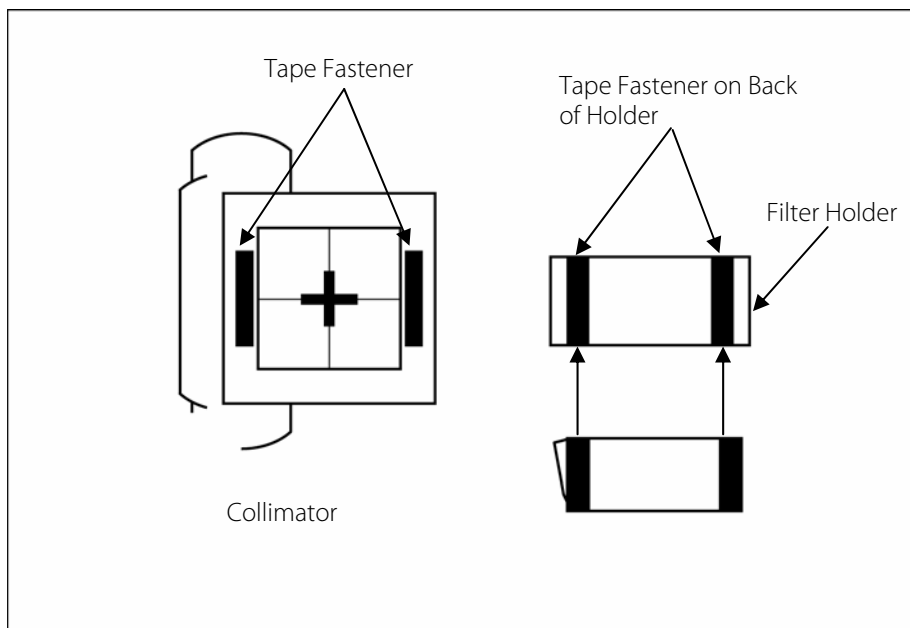

Figure 1-1. Mounting to a Square Collimator
- A. For conventional, square collimator mounting: Attach two strips of 1" wide tape fastener to collimator housing outside the field of view. See Figure 1-1. The filter holder should be oriented perpendicular to the axis of the foot. The filter attaches to the filter holder via the "Quick Stik" magnetic mounting system.